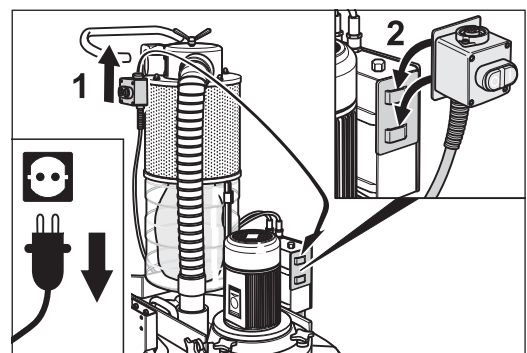

Fig. 52 Hook the ON/OFF switch into the transport holder on motor switch box.
- Remove the ON/OFF switch from the chassis (fig. 52, 1) and hook it into the transport holder on motor switch box (fig. 52, 2).